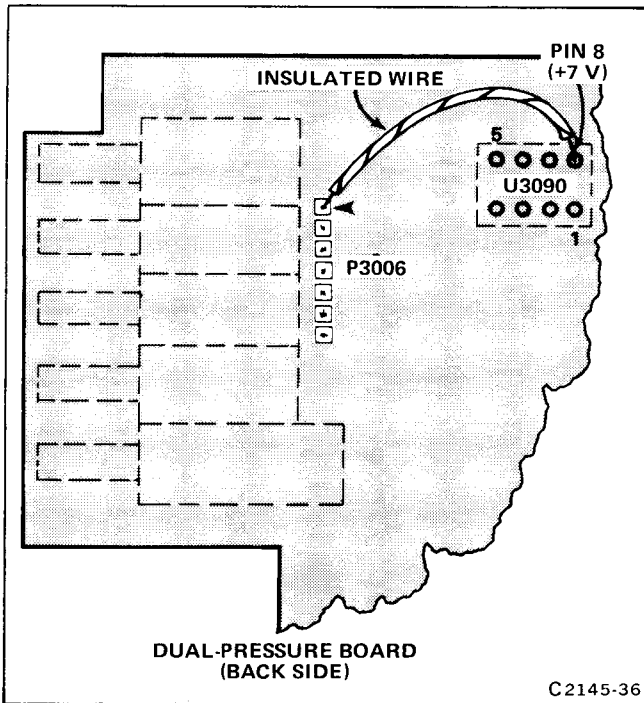

Figure 1-14. Adding wire to 414 Option 21 (MOD FA) Dual-Pressure Board.
414 Option 21—A1 through A5, A7, A13, C6, C7, C12 through C14, C15 (connect violet connector to Manifold board as shown in Figure 1-14), C17, C18.
1. For 414 Option 21 (Mod FA) Monitors Serial Numbers B010100-B041281: Add a short length of insulated wire (from kit) to back side of Dual-Pressure board between pin 1 of P3006 and pin 8 of U3090, see Figure 1-14. Note that wire can be added without removing Dual-Pressure board.